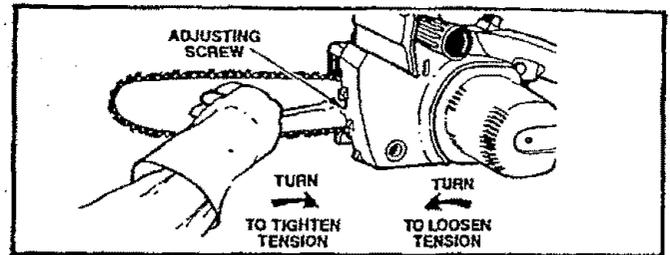

Figure 13
1. Hold the tip of the Guide Bar up and turn the Adjusting Screw clockwise just until the chain does not sag beneath the Guide Bar. Figure 13.